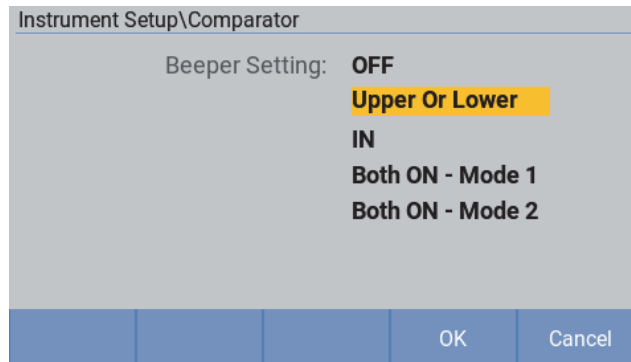

Figure 27. Beeper setting
13. The Beeper Setting screen is shown in *Figure 27*, And the meaning of each option is listed in *Table 12*.